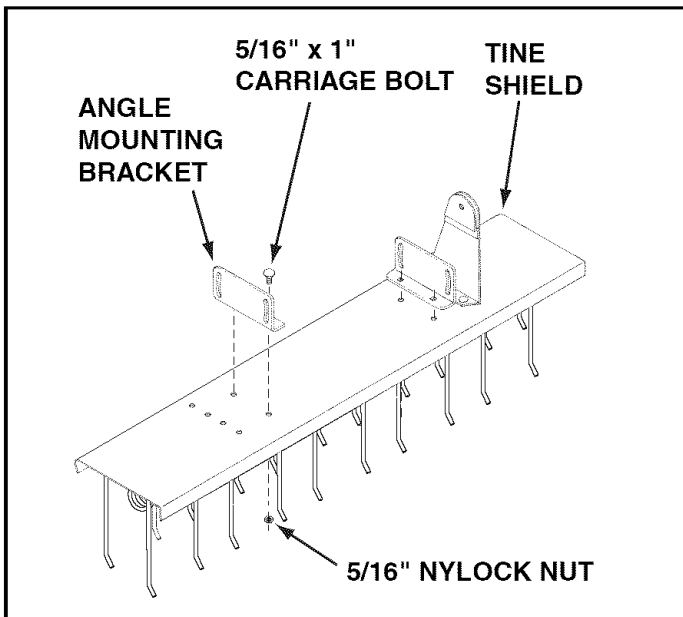

FIGURE 2
2. Assemble angle mounting brackets to tine shield using four 5/16" x 1" carriage bolts and 5/16" nylock hex nuts. **Tighten.** See figure 2.